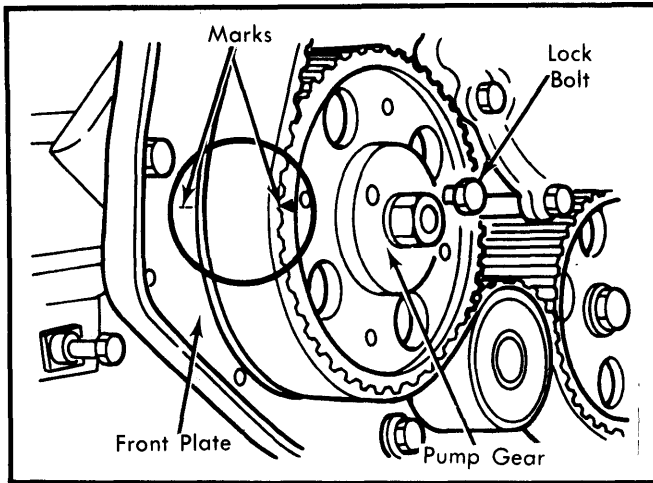

Fig. 5 Aligning Marks For Injection Pump Gear
2) Install injection pump pulley by aligning it with key groove. Align mark on gear with mark on front plate. See Fig. 5. Tighten nut using a 8 mm X 1.25" lock bolt to prevent turning pulley. Remove cam cover.